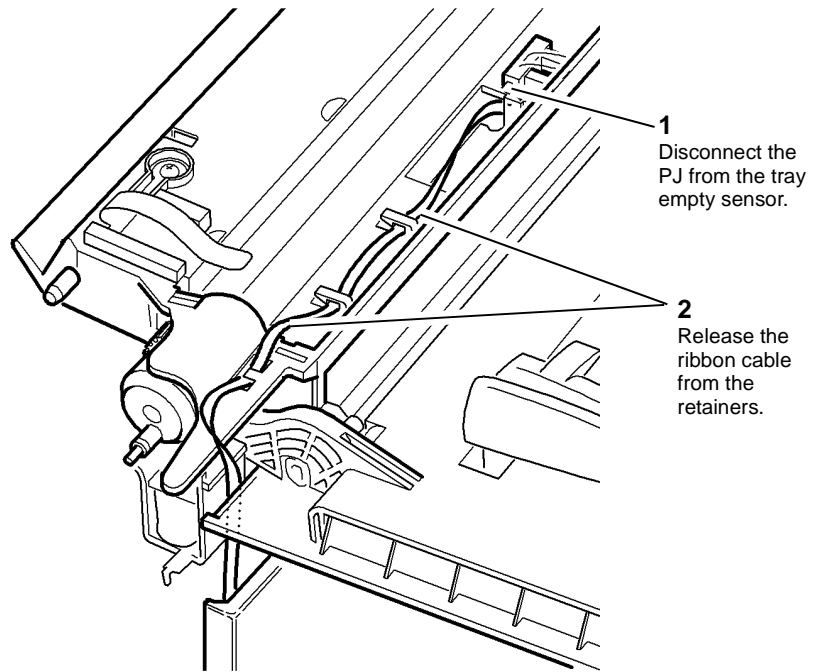

Figure 3 Ribbon cable release
4. Release the ribbon cable from the feed head, Figure 3.